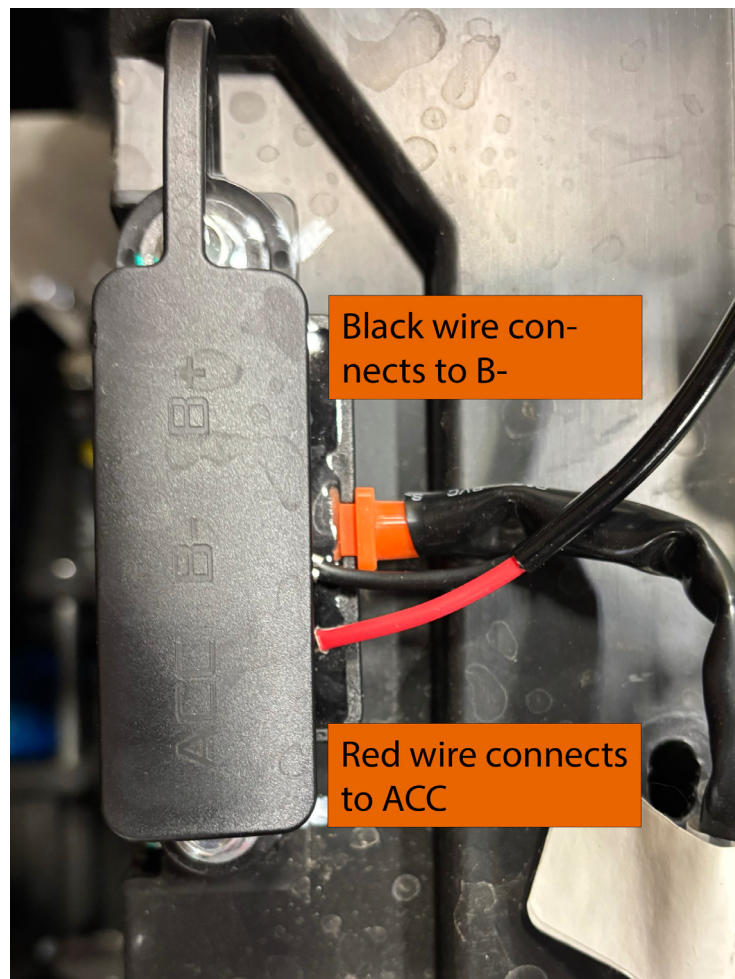

FIGURE 11
46. Connect the red wire to "ACC". FIGURE 11
47. Connect the black wire to "B-". FIGURE 11